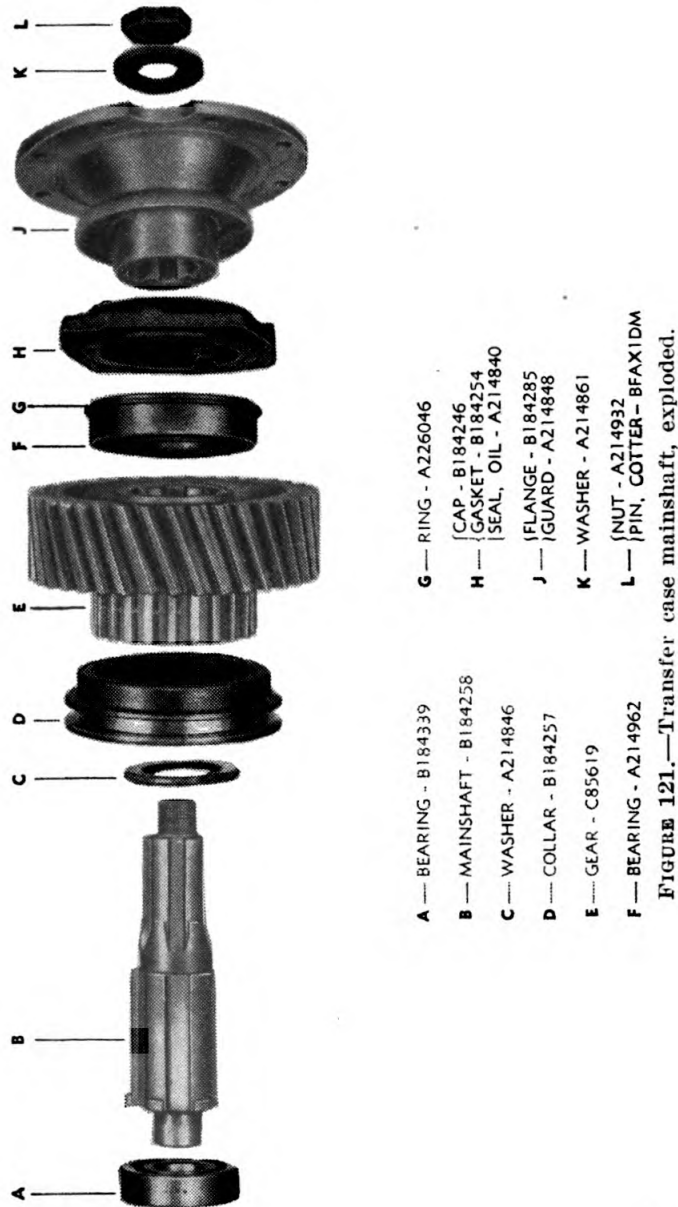

FIGURE 121.—Transfer case mainshaft, exploded.
(A214932), and washer (A214861), holding companion flange (B184285) to shaft and pull flange off shaft (figs. 121 and 122).
(14) Remove transfer case mainshaft rear bearing cap— $\frac{5}{8}$ -inch socket wrench, brass drift, hammer. Remove four cap screws (BCAX1DE) and lock washers (BECX1L) holding rear bearing cap to case and remove cap (B184246) and gasket (B184254) (fig. 121). Drive oil seal (A214840) from cap if necessary to replace seal.
(16) Remove mainshaft rear bearing—brass drift, hammer, screw driver. Drive mainshaft rear ball bearing (A214962) out of case, driving from the inside (fig. 121). Remove snap ring (A226046) from bearing.
(17) Remove shift rod poppet balls— $\frac{3}{4}$ -inch socket wrench. Remove two screw type plugs (A214967) from outer right side of trans-